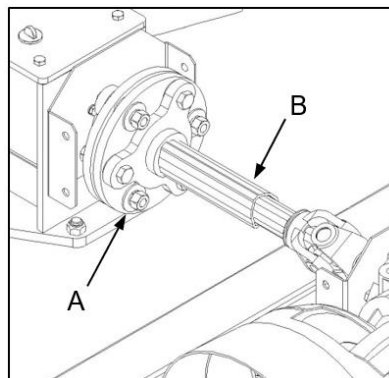

Fig. 6
- ✓ Inspect the rubber diaphragm couplings (Fig. 6-A) and replace those which display evidence of distortion, splitting or cracking.
- ✓ Check telescopic tubes (Fig. 6-B) for indications of wear, distortion, or splitting. If replacement is necessary, replace BOTH halves of the telescopic joint.
- ✓ Inspekteer die rubber diafragma-koppeling (Fig. 6-A) en vervang dié wat tekens van vervorming, skeuring of krake toon.
- ✓ Gaan teleskopiese buise (Fig. 6-B) na vir enige tekens van slytasie, vervorming of skeuring. Indien vervanging nodig is, vervang BEIDE helftes van die teleskopiese gewrig.